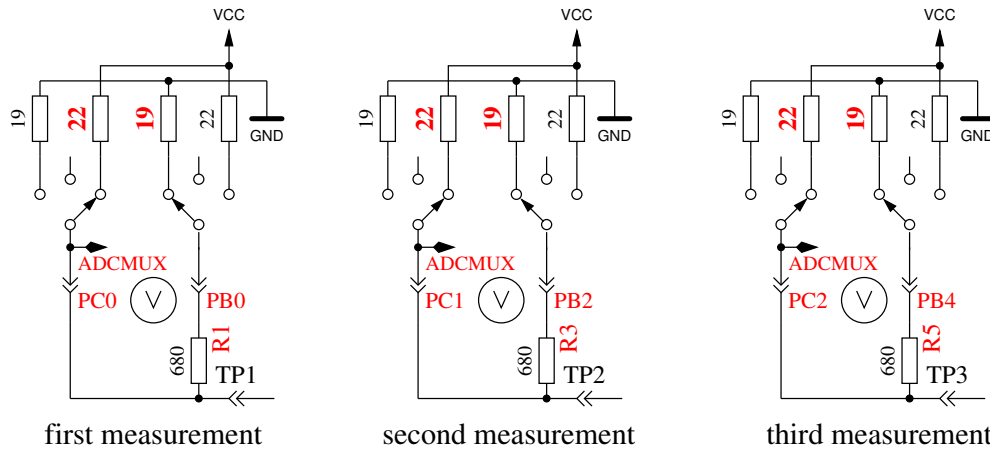

Figure 5.44: Measurement of internal resistance of Port C switched to VCC
8. **Measuring of internal resistance of port outputs switched to the VCC (+)signal.** The needed current is generated with to GND connected 680Ω resistors . It are the same measurements as those in test 7 to the other side as you can see in Figure 5.44. With the following steps the resistance is computed: To get the current, the following is computed: $(VCC - (resultoftest7) - (resultoftest8))/680$. To get both resistor values, the voltage (result of test 7 or 8) is divided by this current. The result for this test will then be notified in row 1 with the text "RI.Hi=", the resistance value (Ω) to the GND side is displayed in row 2 with the text "RI.Lo=". Both results will be written to the EEprom memory and will be used for further measurement.